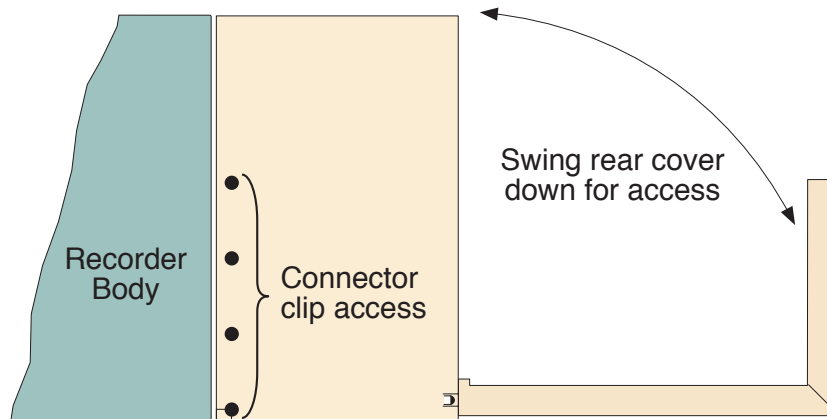
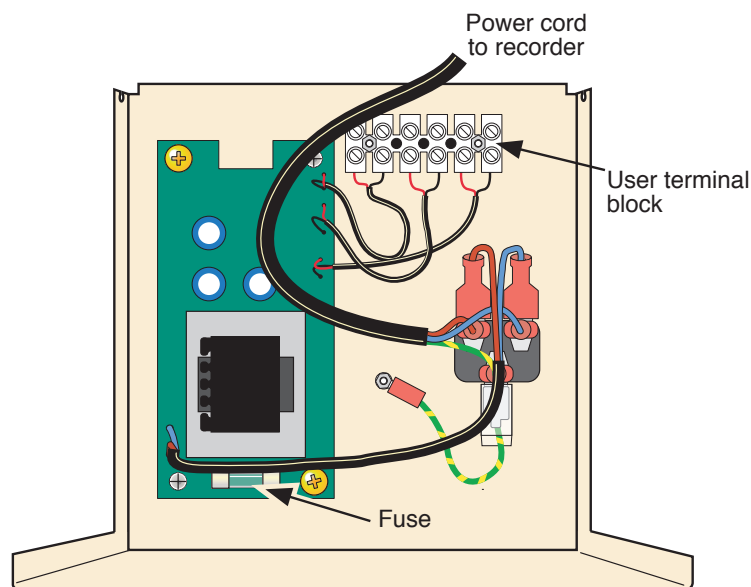

Figure 11.2.2b Opening the rear cover
Figure 11.2.2c Fuse and User terminal block locations
- 3 Open the cover (figure 11.2.2b) to reveal the circuit board, user connections etc. (figure 11.2.2c)
- 4 The fuse is located as shown in figure 11.2.2c. User wiring to the terminal block (figures 11.2.3a/b) can be carried out now, or the terminal cover can be removed for convenience, as described in steps 5 onwards below.
Note: Four apertures in each side of the terminal cover allow the user to actuate the clips which secure the i/o connectors to the rear panel of the recorder. This allows the i/o connectors to be removed if, for example, the recorder is to be removed from the panel for any reason. The positions of these apertures are shown in figure 11.2.2b (right-hand side shown; left-hand side similar).